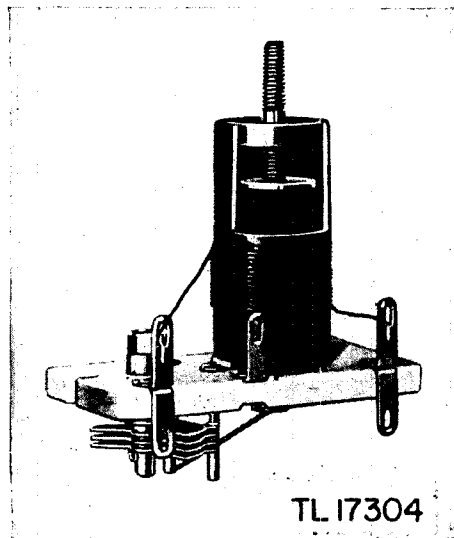

Figure 8. Cutaway view of tuning coil.
- (8) Meter housing and meter movement.
- (9) Tuning coil assemblies (fig. 8).
- (10) Variable capacitors and trimmers.
- (11) Lamp sockets.
- (12) Phone jacks.
- (13) Control shafts.
- (14) Beat-frequency oscillator control shaft and couplings.
- (15) Knurled cap nuts for fastening dust covers.